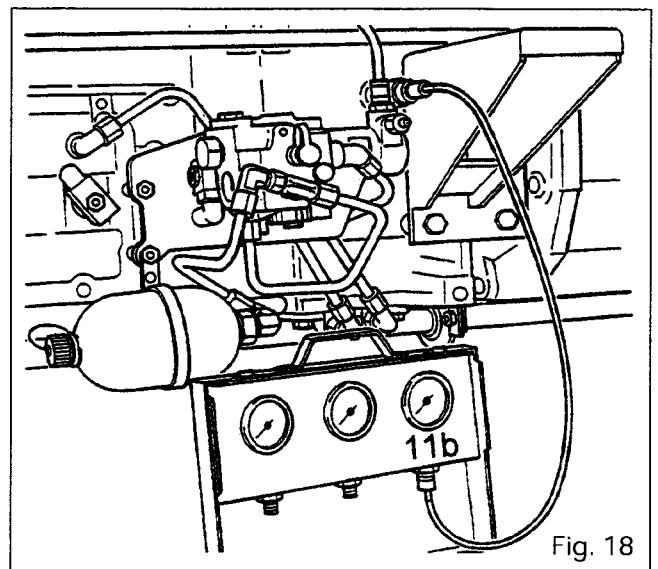

Fig. 18
- Connect a pressure gauge to the diagnostic connector located on the right-hand side of the gearbox (Figures 18 and 20) to check **P25**.